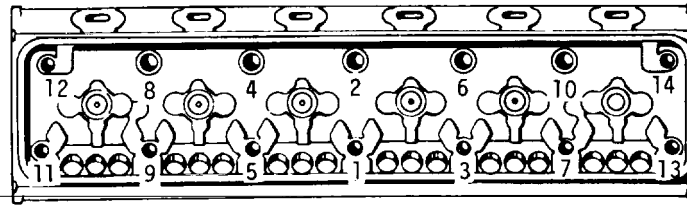

Fig. 13
- (8) Tighten the bolts (or nuts) to 175-185 ft/lb. (238-251 N-m) with a torque wrench, one-half turn at a time, in the sequence shown in Fig. 13. Begin on the cam follower side of the head to take up tension in the push rod springs. Tighten the bolts to the high side of the torque specification, but do not exceed the limit or the bolts may stretch beyond their elastic limits. Attempting to tighten the bolts in one step may result in trouble and consequent loss of time in diagnosis and correction of difficulties, such as compression leaks, when the engine is put into operation.